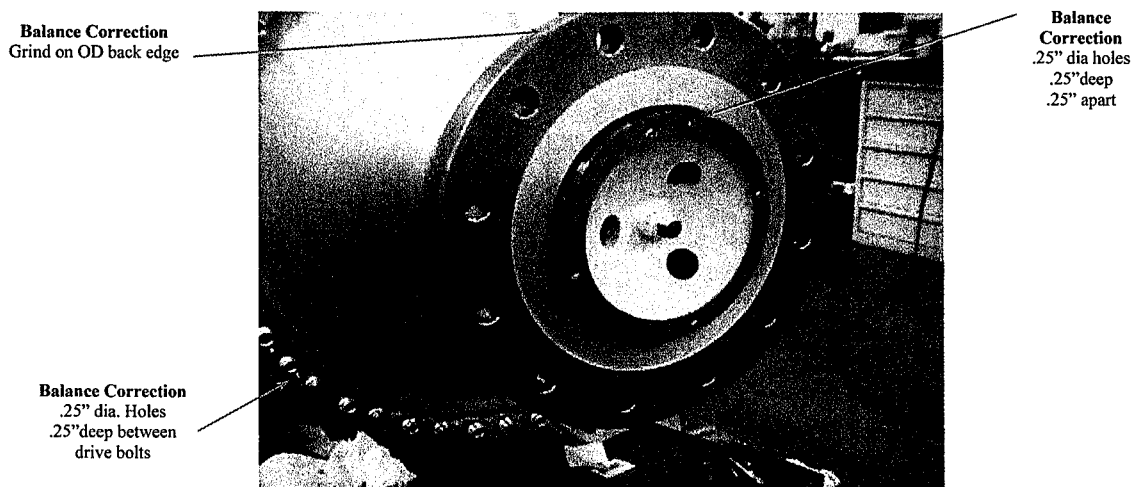

Figure 20 - Weight Removal Location for Forward Sub Assembly Balance
- k. Using the two plane method, balance the subassembly within 20 gram-in (.7055 oz-in) of static balance. Verify that the single plane balance tolerance was met in order to be customer compliant. All balance tooling and proposed balance procedures shall be provided by the refurbisher and approved by customer prior to balancing. Note weight material removal locations. (See figure 20)